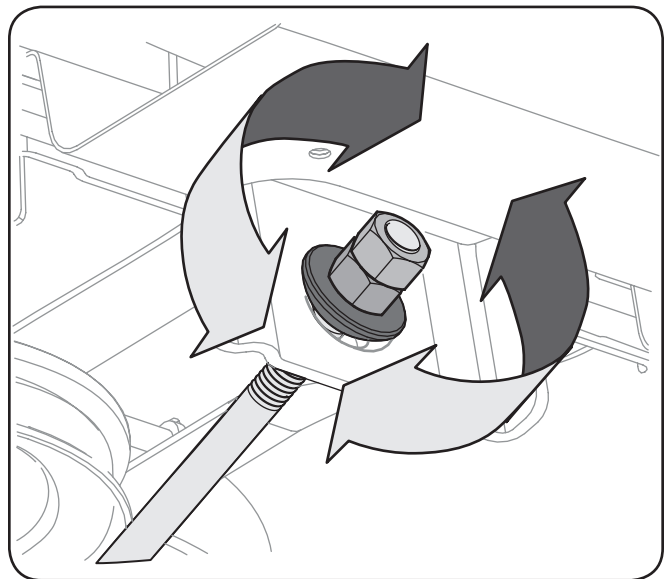

Figure 6-6
5. To *raise* the front of the deck, remove the end cap, loosen the outer nut then tighten (thread inward) the nut against the front hanger bracket. See Figure 6-6. When proper adjustment is achieved, re-tighten the outer nut and replace the end cap.
6. To *lower* the front of the deck, remove the end cap, loosen the outer nut then loosen (thread outward) the nut, away from the front hanger bracket. See Figure 6-6. When proper adjustment is achieved, re-tighten the outer nut and replace the end cap.